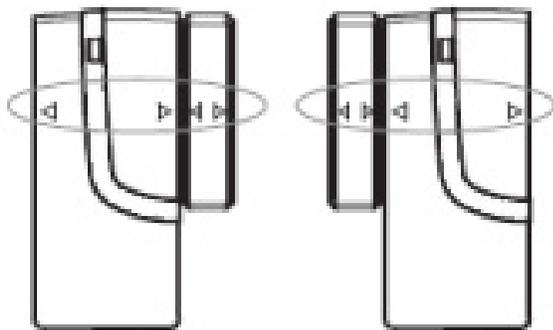

Fig.3
- Ensure the >|< marks on the sides of the transmitter and magnet match up as shown in Fig. 3.